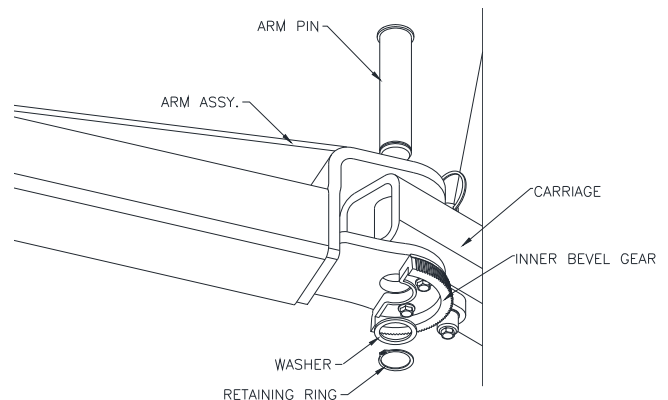

Fig 9 -Arm Pin Keeper Install
- 24) Install the provided retaining ring onto the pin with tool, **Fig 9**.